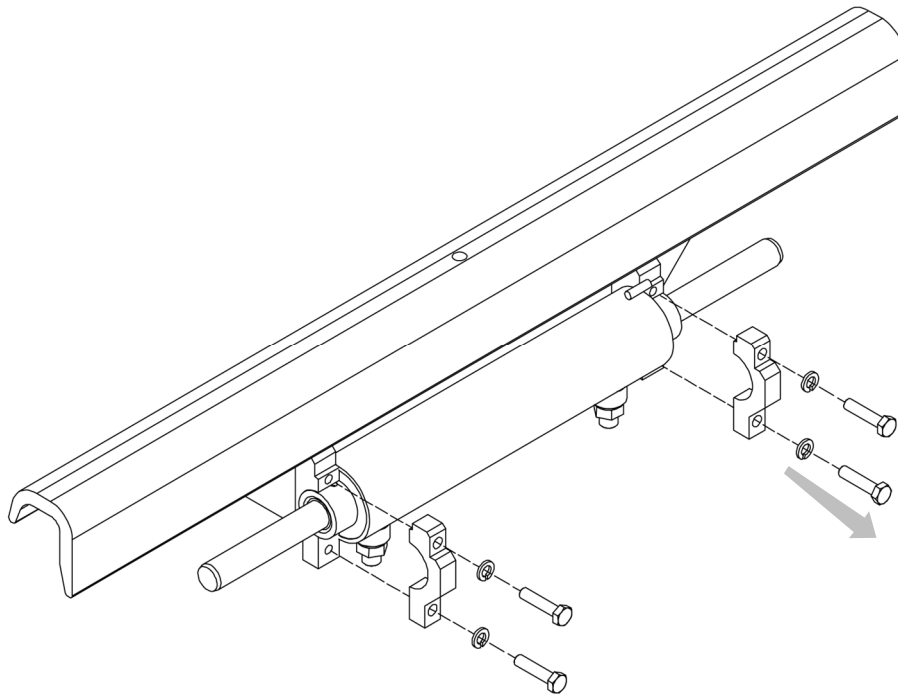

Figure 19
4. For reference, see *Figure 19*.